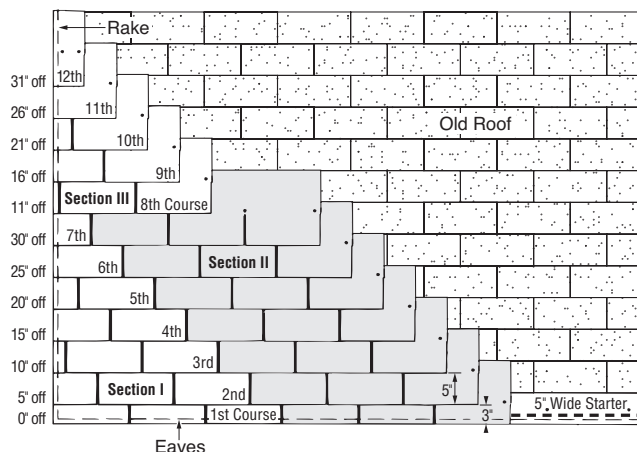

Figure 13-15: Five Off, Twelve Up, Nested.
2. Cut 5" off the length of the first starter strip, and align the 31" piece over the first course at the lower left corner of the existing roof (Figure 13-15).
1. The first course is made of 10" by 36" shingle strips made by cutting 2" off the bottom of the tabs of regular shingles (Figure 13-15).
1. Begin the second course by cutting 5" off the left end of a shingle and aligning the top edge with the butt edge of the shingle in the old fourth course (Figure 13-15).
5. This completes "Section I" (Figure 13-15) – the first seven courses of the 12-course repeating cycle.
1. Begin the eighth course by cutting 11" off the left end of a shingle and applying the 25" piece over the seventh-course shingle, flush with the left edge of the seventh course (Figure 13-15).